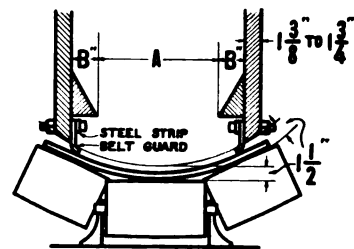

Fig. 6—Section thru Loading Skirt Boards
**Skirt Boards.** Materials conveyed should be at rest on the belt in from 6 to 8 feet from the loading point, therefore, skirt boards from 6" to 12" high and from 5 to 7 feet long are ordinarily required. For conveyors with the loading point at an angle add guard strips of rubber belting to the skirt boards, shown in Cross Section, Fig. 6. See also side elevation of skirt boards, page 239.